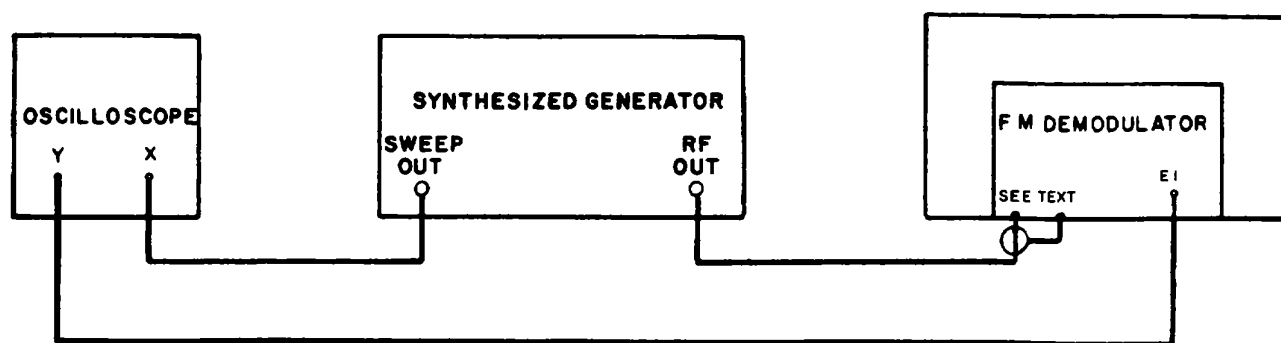

Figure 4-25. FM Demodulator Alingnment, Equipment Connections
2. Connect the test equipment as illustrated in **Figure 4-25**, with the sweep generator RF output connected between pin 1 (signal) and pin 2 (shield) of connector XA16. Connect the sweep generator demod input at terminal E1 of the FM Demodulator under test.